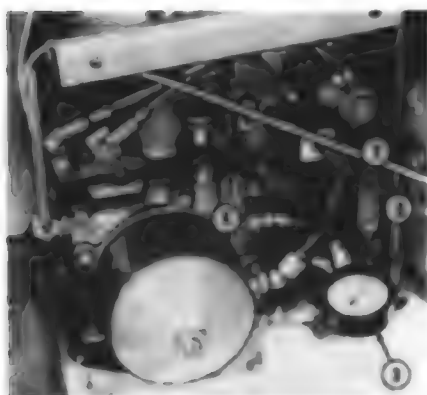

Fig. 160 - View showing gage connection for testing pto pressure. Refer to text.
9. Sealing rings (2)
F. Refer to Fig. 160 and remove pressure line (1) from tee on left side of tractor. Attach a test gage capable of registering at least 300 psi. Engage pto and operate engine at 2200 rpm. If pressure reading is below 220 psi,